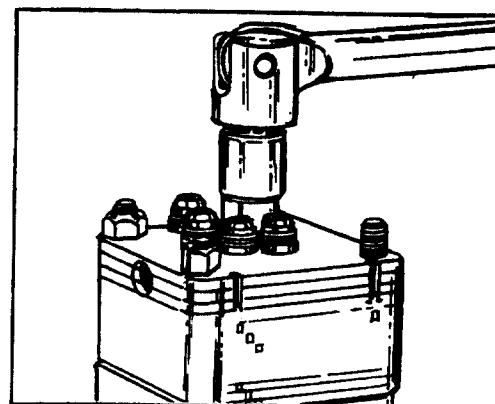
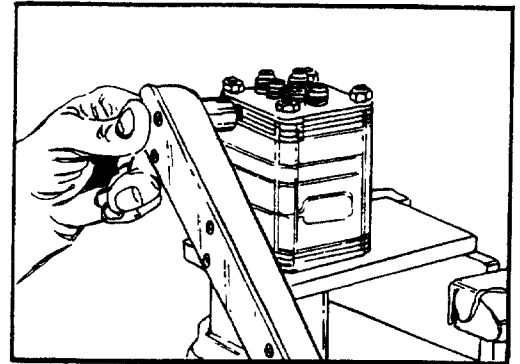

FIGURE 90.
FIGURE 92.
41. Install nuts (1) onto bolts (40). Tighten each one gradually until resistance is felt. Torque to 18-22 foot pounds (24-30 N m) in sequence shown. See figures 90 and 91. Torque plug (6) to 8-12 foot pounds (11-16 N m). See figure 92.